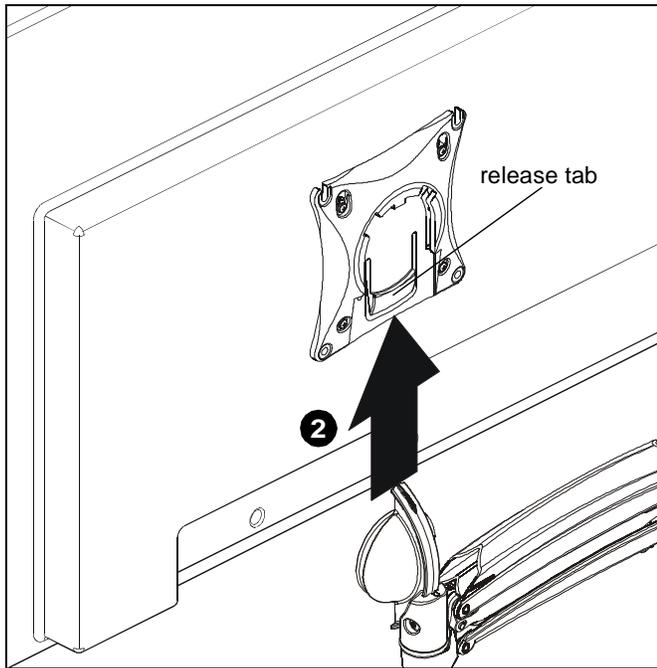

Figure 12
WARNING: Only remove display from mount when the display can be lifted up from the mount! DO NOT remove display unless the display is in the upright position! (See Figure 12)
2. Remove quick connect faceplate from mount by pressing release tab and sliding faceplate off mount. (See Figure 12)